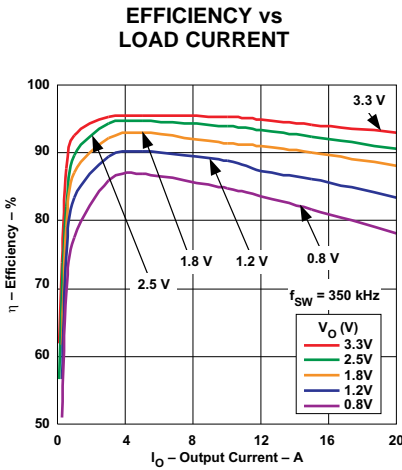
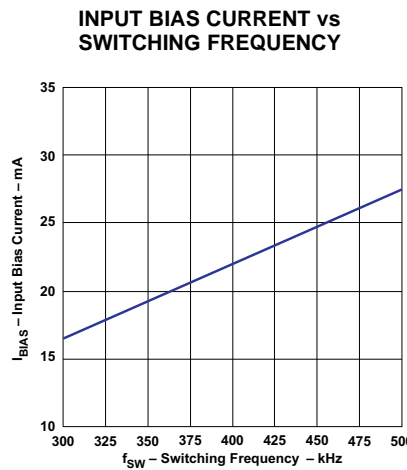

Figure 10.
Figure 14.
- (1) The electrical characteristic data has been developed from actual products tested at 25°C. This data is considered typical for the converter. Applies to Figure 10 thru Figure 14.